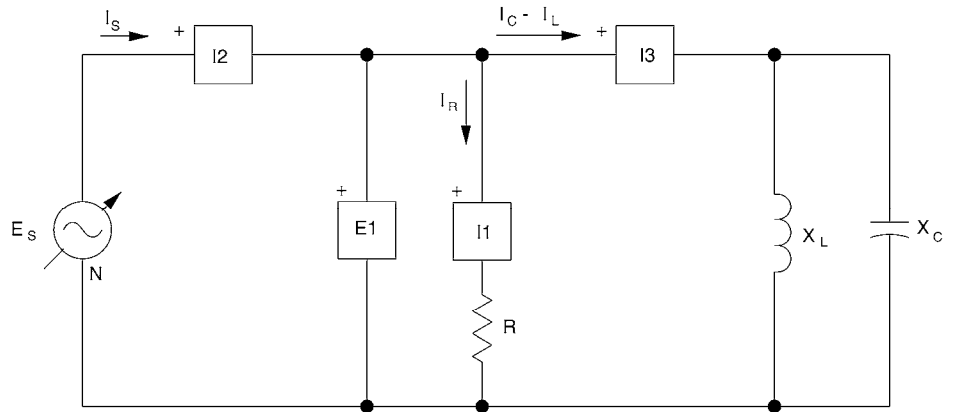

Figure 5-16. Measuring the source current in a parallel resonant circuit.
19. Turn off the Power Supply and reconnect inputs E1, I1, I2, and I3 as shown in Figure 5-16 to measure I_R , I_s , and $I_C - I_L$, respectively. Turn on the Power Supply and display the current phasors again.